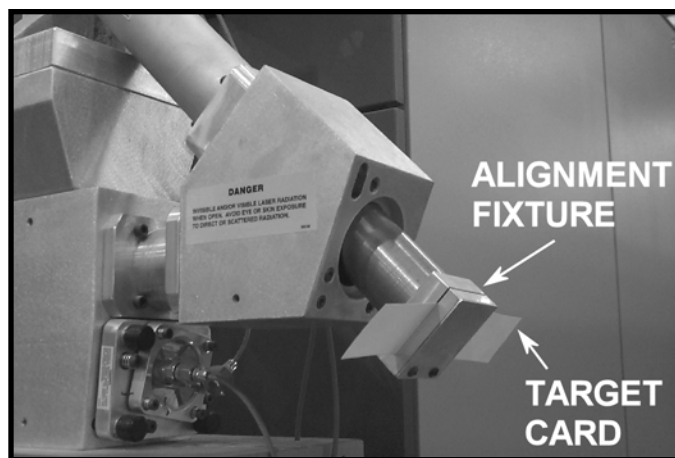

FIGURE 9-16 Second external mirror alignment
- Install the alignment fixture in the second mirror housing and insert a target card (See Figure 9-16).